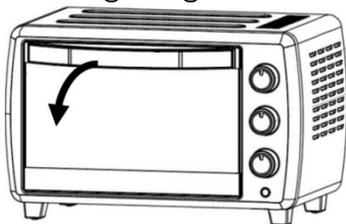

Fig. 3
- How to open and close the door – See fig. 3 & 5
7. Open the oven door (Fig. 3) and place the food into the oven using the grill rack and / or baking tray.